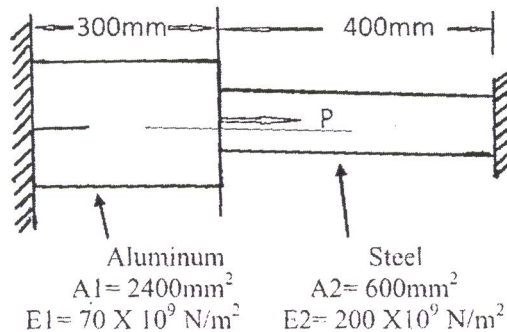

Fig. 1, Q No. 5(b)
b) Consider the bar shown in Fig 1 is subjected to axial load $P = 200 \times 10^3 \text{N}$. Using the penalty approach for handling boundary conditions,do the following: [12]